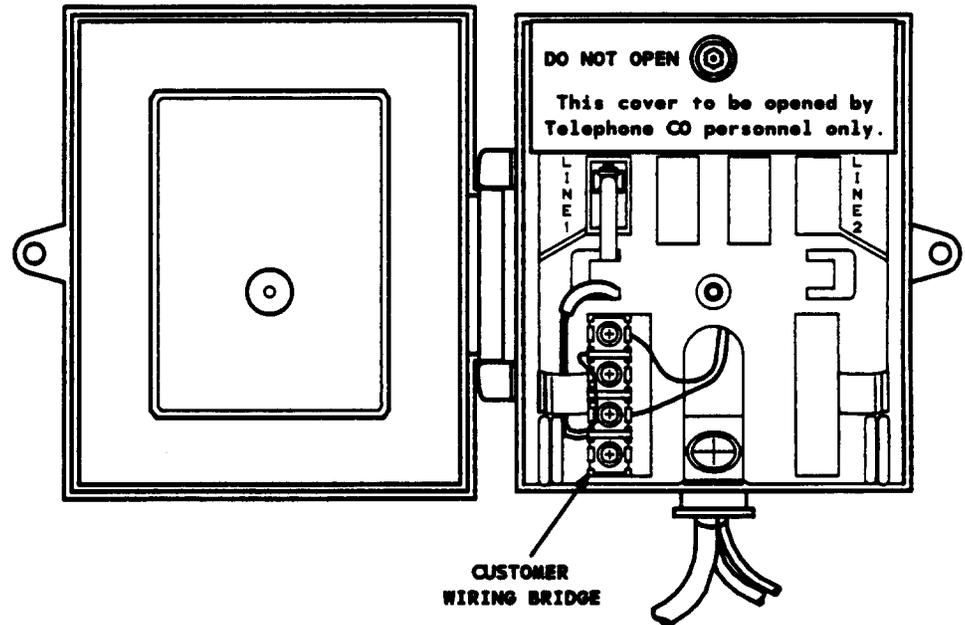

Figure 11. Attaching Customer Wiring to Customer Bridge
- (5) Attach customer wiring in accordance with the procedure of (a) or (b).
- (a) To restore service to Line 1, identify and terminate the tip and ring of the customer wire(s) to the customer bridge Red-Green screw terminals of Line 1 (Figure 11).